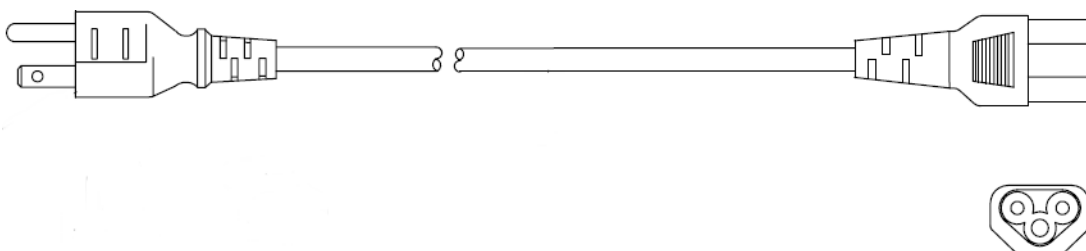
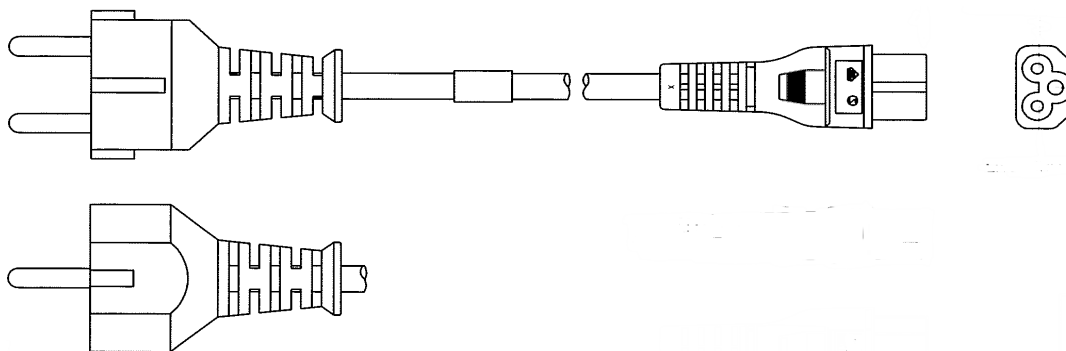

Figure 2-6: Power Charger Cable—US P/N 1005793-01
Figure 2-7: Power Charge6 Cable—Europe P/N 1005794-01
<p>Power Charge Cable(s) These two cables connect to the power adapter to a grounded outlet. Several options are available for the power charger cable based on your country. To purchase this cable, contact your Sokkia dealer. Refer to this part numbers:</p> <p>P/N 1005793-01 - Cable, Power Charger (US) P/N 1005794-01 - Cable, Power Charger (EUR)</p>	<p>See Figure 2-6 and Figure 2-7.</p>